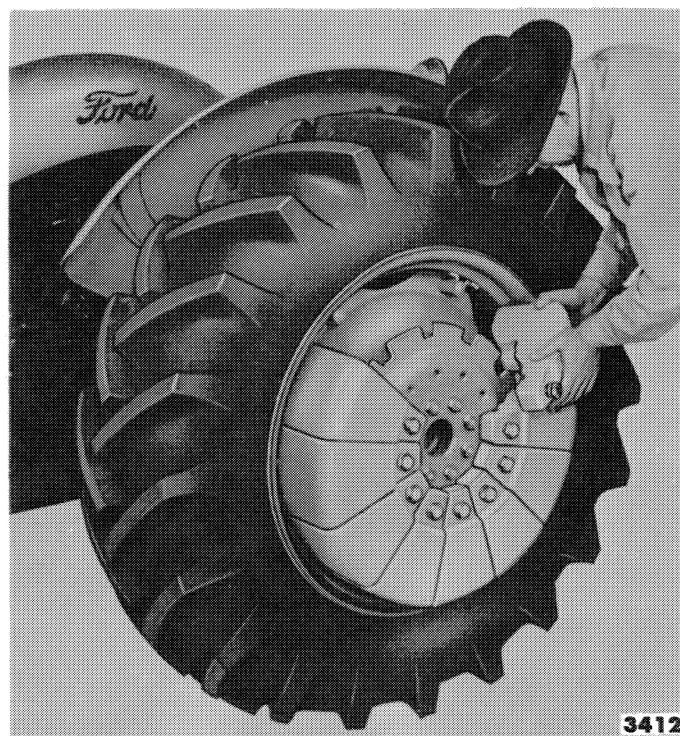

Figure 15—Installing Weights on Plate
3. Install each weight on the plate with the bolt provided, Figure 15. Do not tighten the bolts until all desired weights have been installed, then tighten all bolts securely.